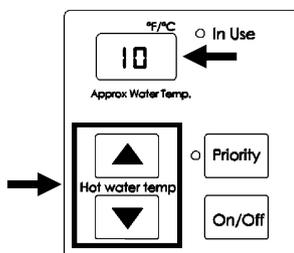

Figure 14A
4. Press the ▲ (Up) and ▼ (Down) arrows on the controller to select setting “i0” (Figure 14A).